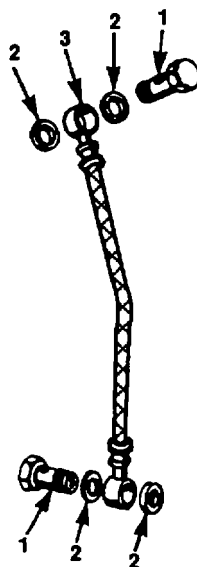

Figure 3-28. Fuel Hose
Visually inspect fuel hose for signs of leakage from external damages. Inspect copper washers (2, figure 3-28) for deterioration. Ensure banjo bolts are tight.
- a Remove bolts (1) and washers (2, figure 3-28).
- b Remove hose (3).